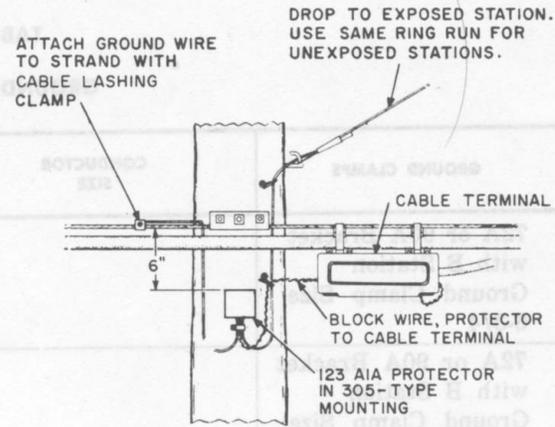

Fig. 45—N-Type Terminal, Strand Installation
**11.07** Cable protection is required at terminals in exposed cables where the drop wire is exposed. Typical wall and pole installations using protectors for cable protection with terminals is shown in Fig. 41 through Fig. 45.